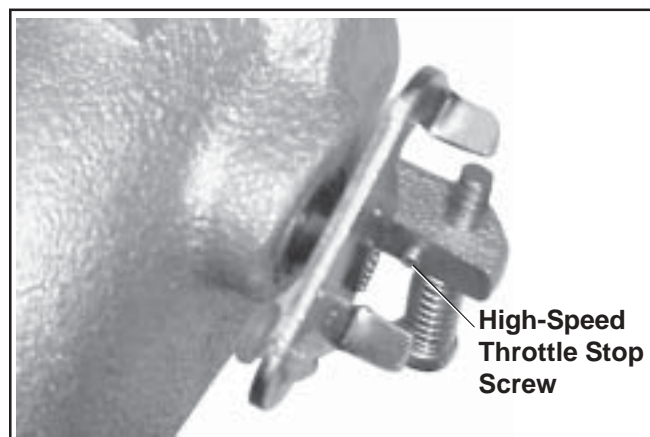

Figure 5B-35. Throttle Details.
- a. On engines with a stop screw, pivot the throttle shaft and plate into the "Full Throttle" position, so the tang of the throttle shaft plate is against the end of the high-speed stop screw. See Figure 5B-35. Temporarily clamp in this position.